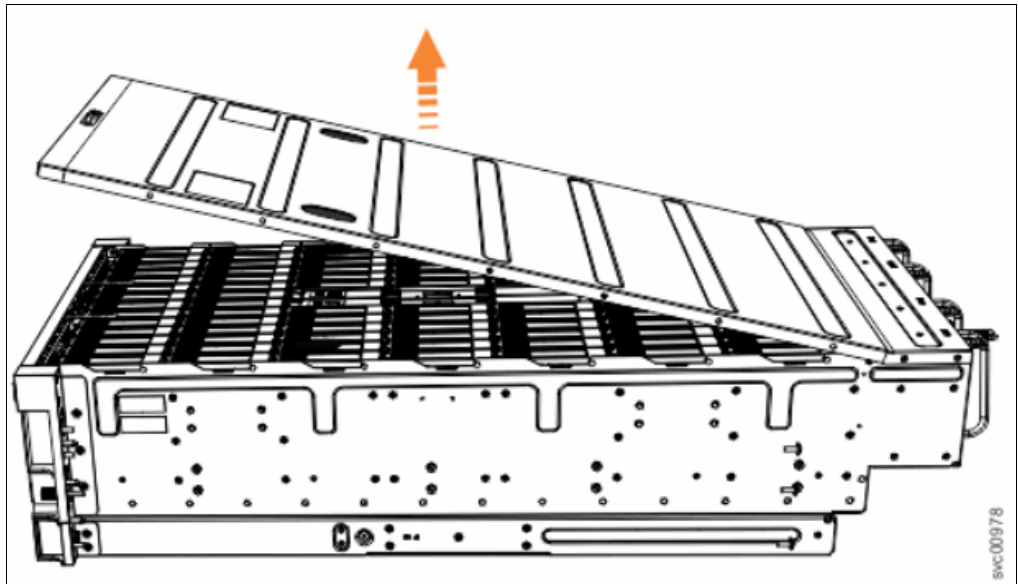

Figure 6-15 Removing the expansion enclosure top cover
- c. Carefully lift the cover up, as shown in Figure 6-15.